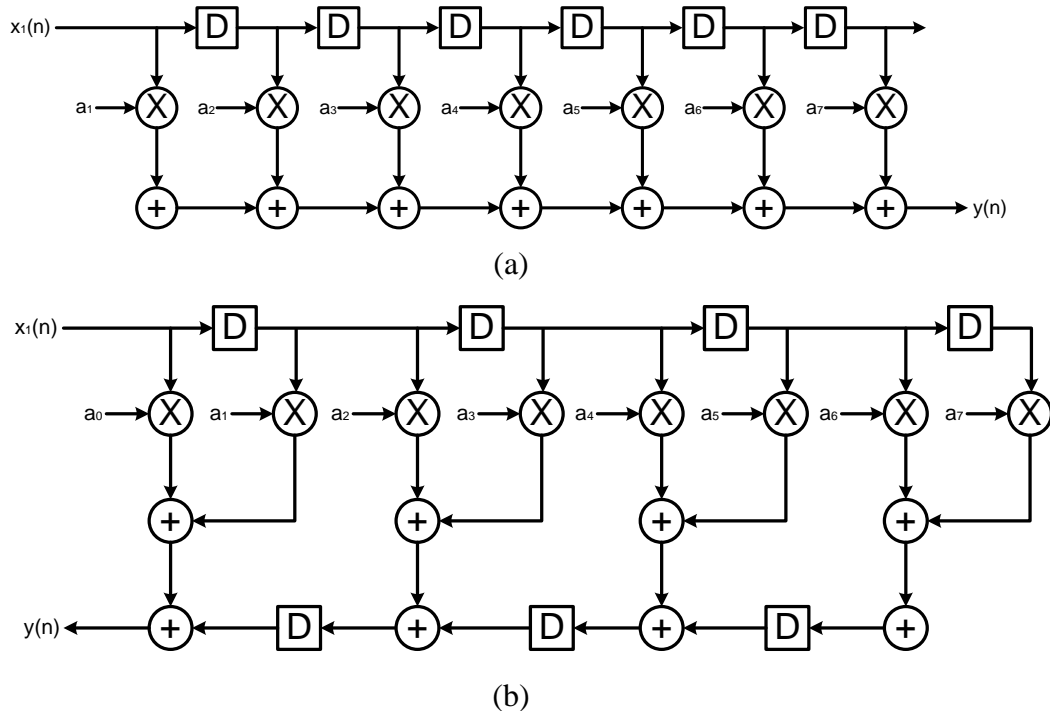

Fig. 3.24 Two implementations of an 8-tap FIR filter in Problem 3
3. Two implementations of an 8-tap FIR filter are shown in Fig. 3.24. Assume the critical path (or the propagation delay) of a multiplier to be twice that of an adder, i.e., $T_m = 2T_a$. Therefore, the charging capacitance of a multiplier is twice that of an adder. Further assume that the total capacitance of a multiplier is 10 times that of an adder, i.e., $C_m = 10C_a$. The structure in Fig.3.24(b) can be operated with a lower supply voltage to meet the clock period or sampling period constraint of $9T_a$. Thus, the structure in Fig.3.24(b) can be used to reduce the power consumption. Assume that the structure in Fig.3.24 (a) is operated with a supply voltage of 4V. Assume the technology threshold voltage to be 0.5V. The supply voltage must be greater than 1.2V to achieve the acceptable noise margin. What is the minimum supply voltage at which the structure shown in Fig.3.24 (b) can be operated to achieve the desired sampling period of $9T_a$? Calculate the percentage of reduction in power consumption for the
structure in Fig.3.24 (b) as compared with that in Fig.3.24(a). Neglect the propagation delay and capacitance of delay elements in calculation of critical path or power consumption